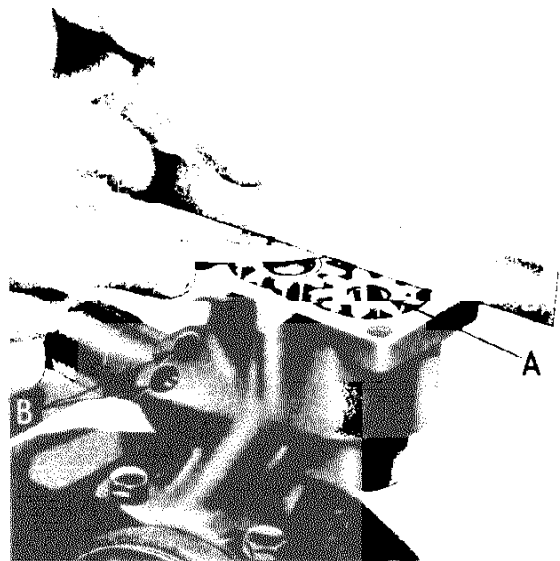

Figure D16.
- (vi) That with the oil pump inverted, the two gears in position and with a straight edge resting across the oil pump body above the gears, it is not possible to insert a 0.0025" feeler gauge between the straight edge and each gear in turn. Fig. D16.